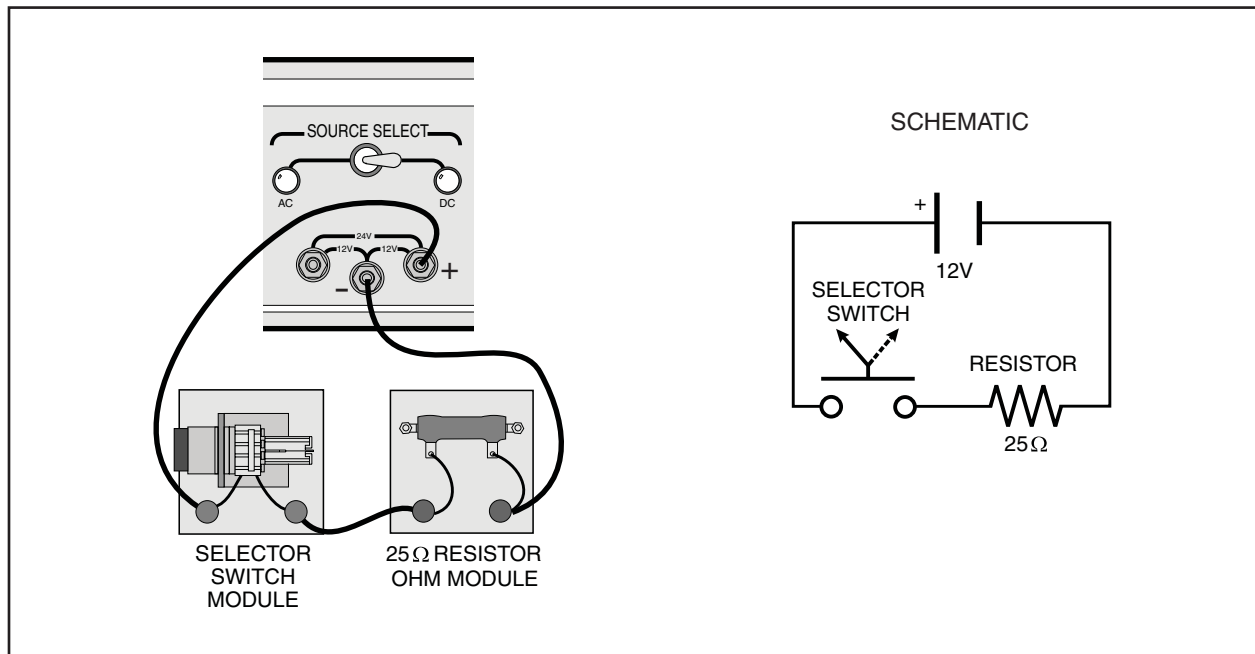

Figure 4-1. A Schematic Diagram and Pictorial of a Circuit with a Selector Switch and a Resistor
- 2. Connect the circuit shown in the schematic diagram in figure 4-1.